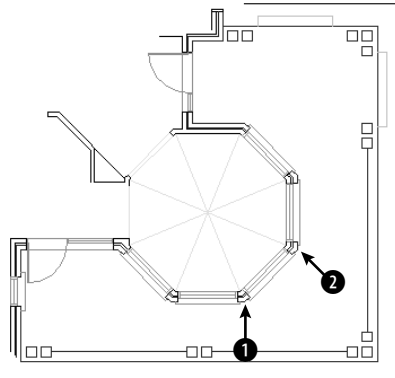

Figure 14-9: A section of a floor plan of a house.
2. Save the file as ab14-02.dwg in your AutoCAD Bible folder. This is part of a floor plan of a house, as shown in Figure 14-9. OSNAP should be on. Set running object snaps to endpoint and intersection. If the Dimension toolbar isn't visible, right-click any toolbar and choose Dimension. Click Close.
- Specify first extension line origin or <select object>: Choose ① in Figure 14-9.
- Specify second extension line origin: Choose ② in Figure 14-9.